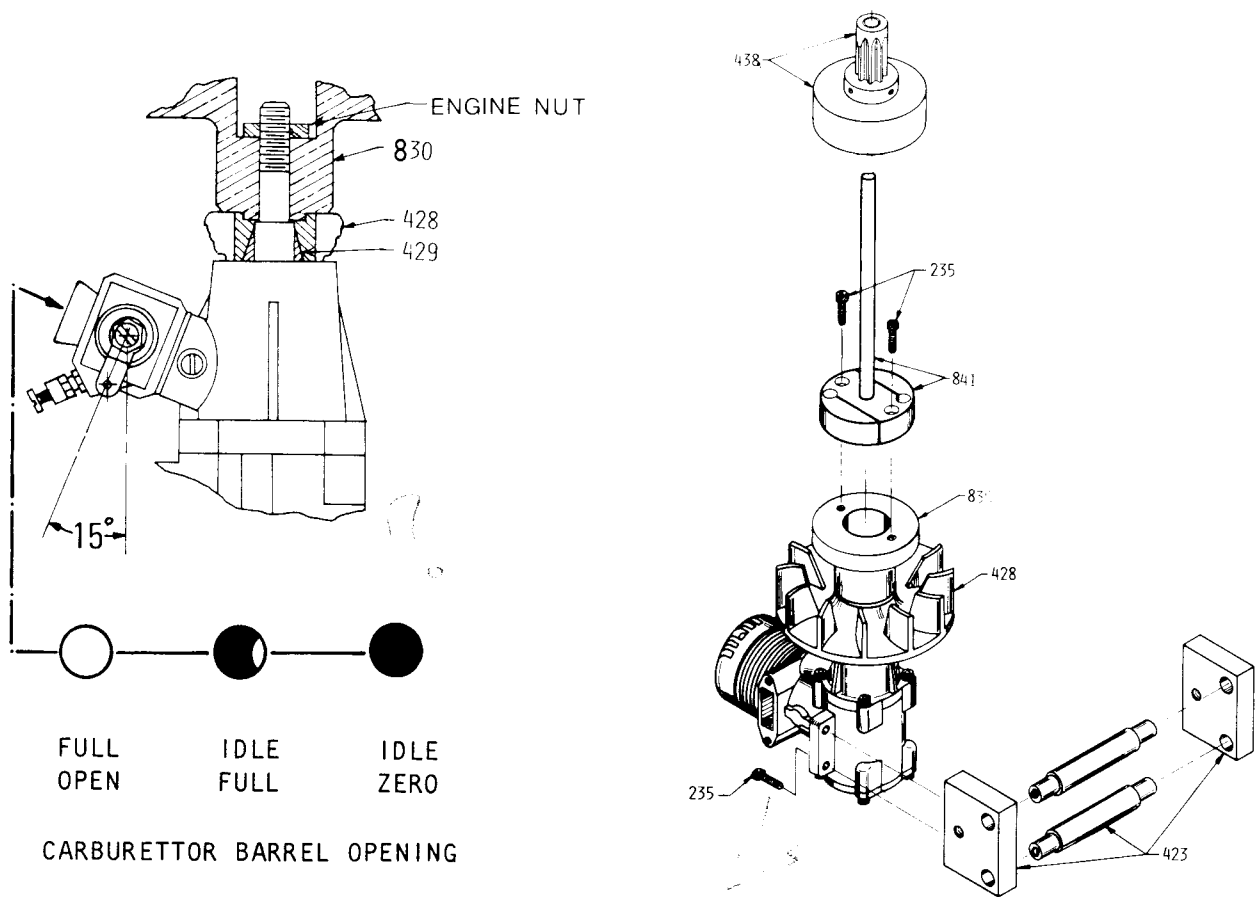

Figure 2
STEP 2 ENGINE ASSEMBLY - see Figure 2